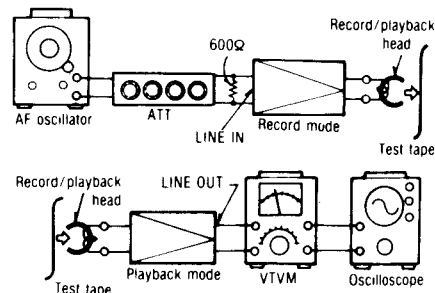

Fig. 18
1. Test equipment connection is shown in fig. 18.
8. Repeat from step (2).
- Test equipment connection is shown in fig. 18.